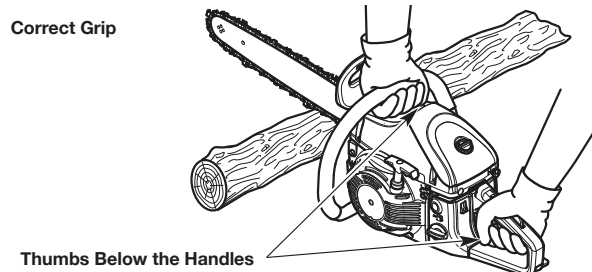

Fig. 6
- Firmly encircle the handles with the thumbs and fingers (Fig. 6). This will help reduce the chance of losing control of the unit if kickback occurs. Any grip with thumbs and fingers on the same side of the handles is dangerous.